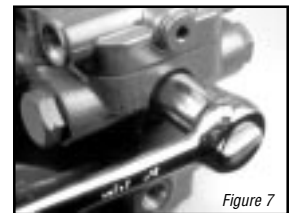

Figure 7
**6** Use a 7/8 in. socket or end wrench to remove the optional bypass valve assembly from the backplate. (See Figure 7)